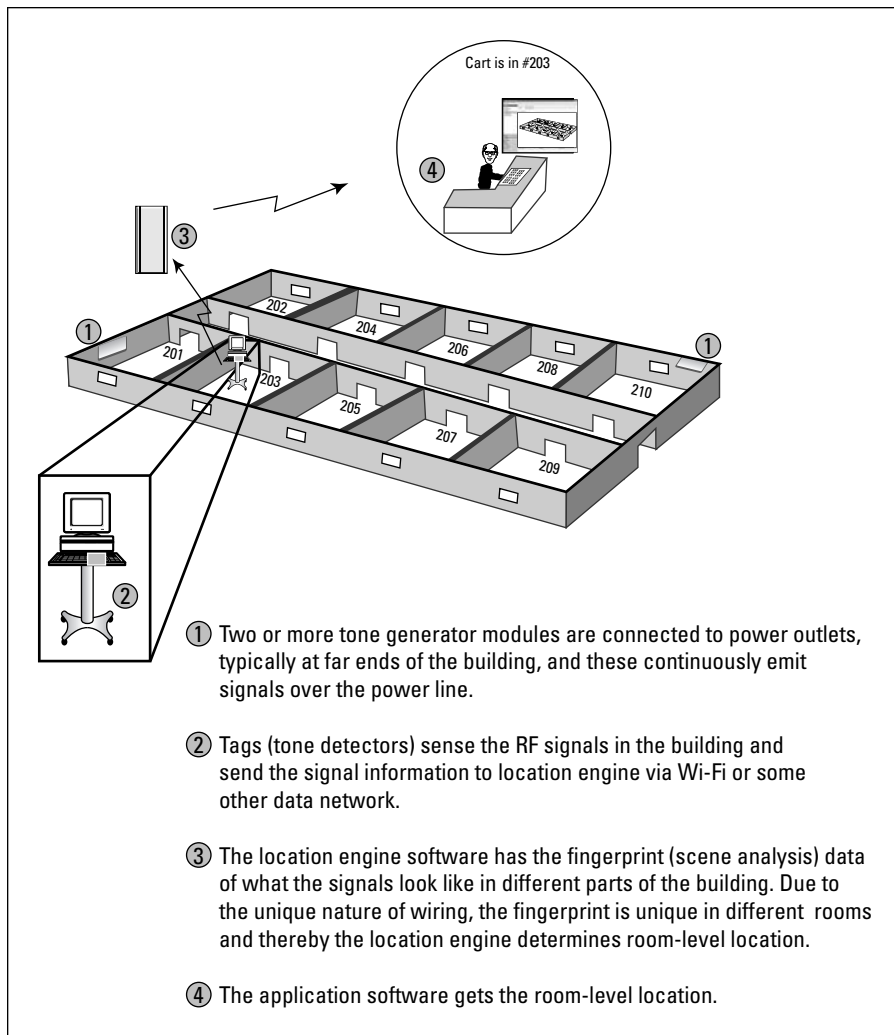

Figure 9-5:
5. Tags equipped with specially tuned tone detectors sense these signals in the building and relay that information to the location engine over a wireless network (such as Wi-Fi). The detected signal levels provide a distinctive fingerprint resulting from the density of electrical wiring at the given location. See Figure 9-5.